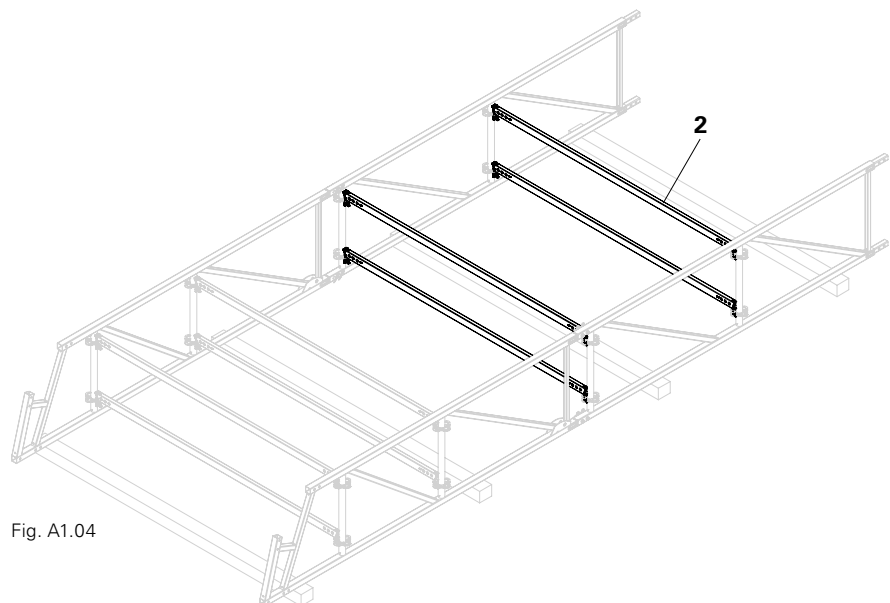

Fig. A1.04
- Attach horizontal ledgers (**2**) to the rosette on both sides (**1.1**) using the ledger heads and wedges (**2.1**). (Fig. A1.04)